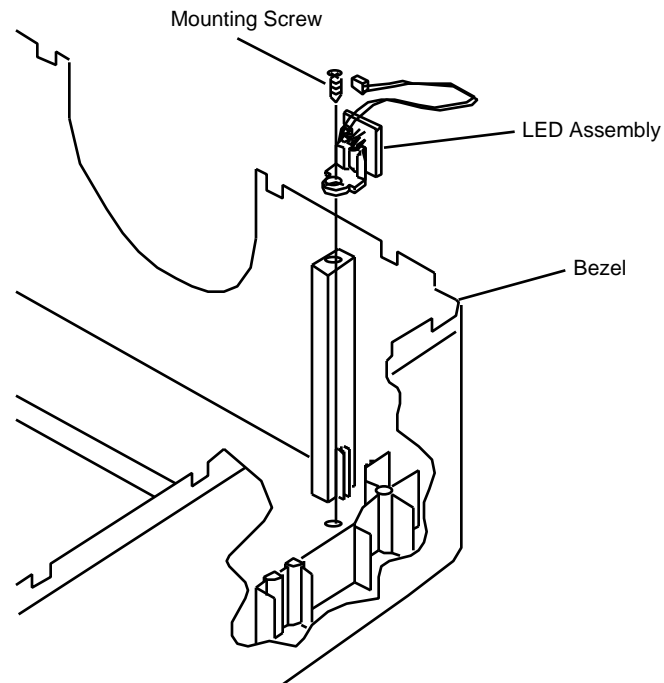

FIGURE 33
6. Remove the mounting screw, and slide the LED cable assembly out of the bezel (Figure 33) .
1. Slide the LED cable assembly onto the bezel as shown in **Figure 33** , and replace the mounting screw.